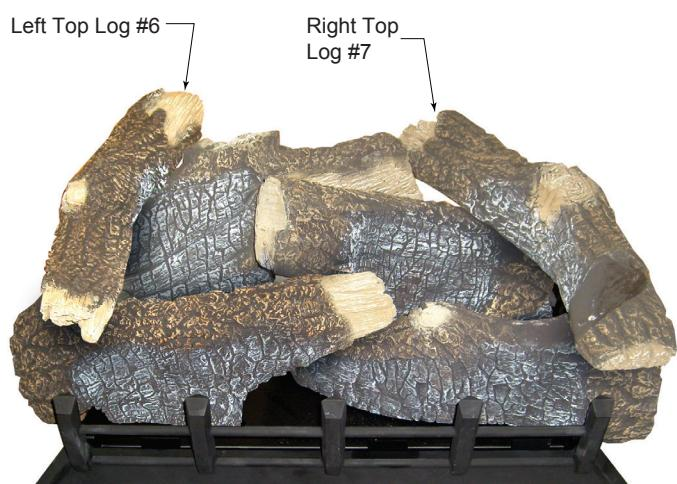

Figure 36.
6. Place top left log (#6) on left rear log (#4) and left front log (#5) using locating grooves on bottom of #6 and locating blocks on logs #4 and #5. *Figure 36*
7. Place right top log (#7) on right rear log (#3) and right front log (#2) using locators on the bottom of log #7 and locators on logs #2 and #3. *Figure 36*